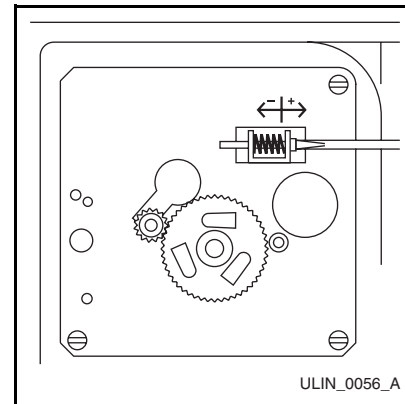

Figure 16
2. Locate the adjusting screw on the ice maker assembly control box. The adjusting screw is just below the minus (-) and plus (+) signs on the control box (**Figure 16**).